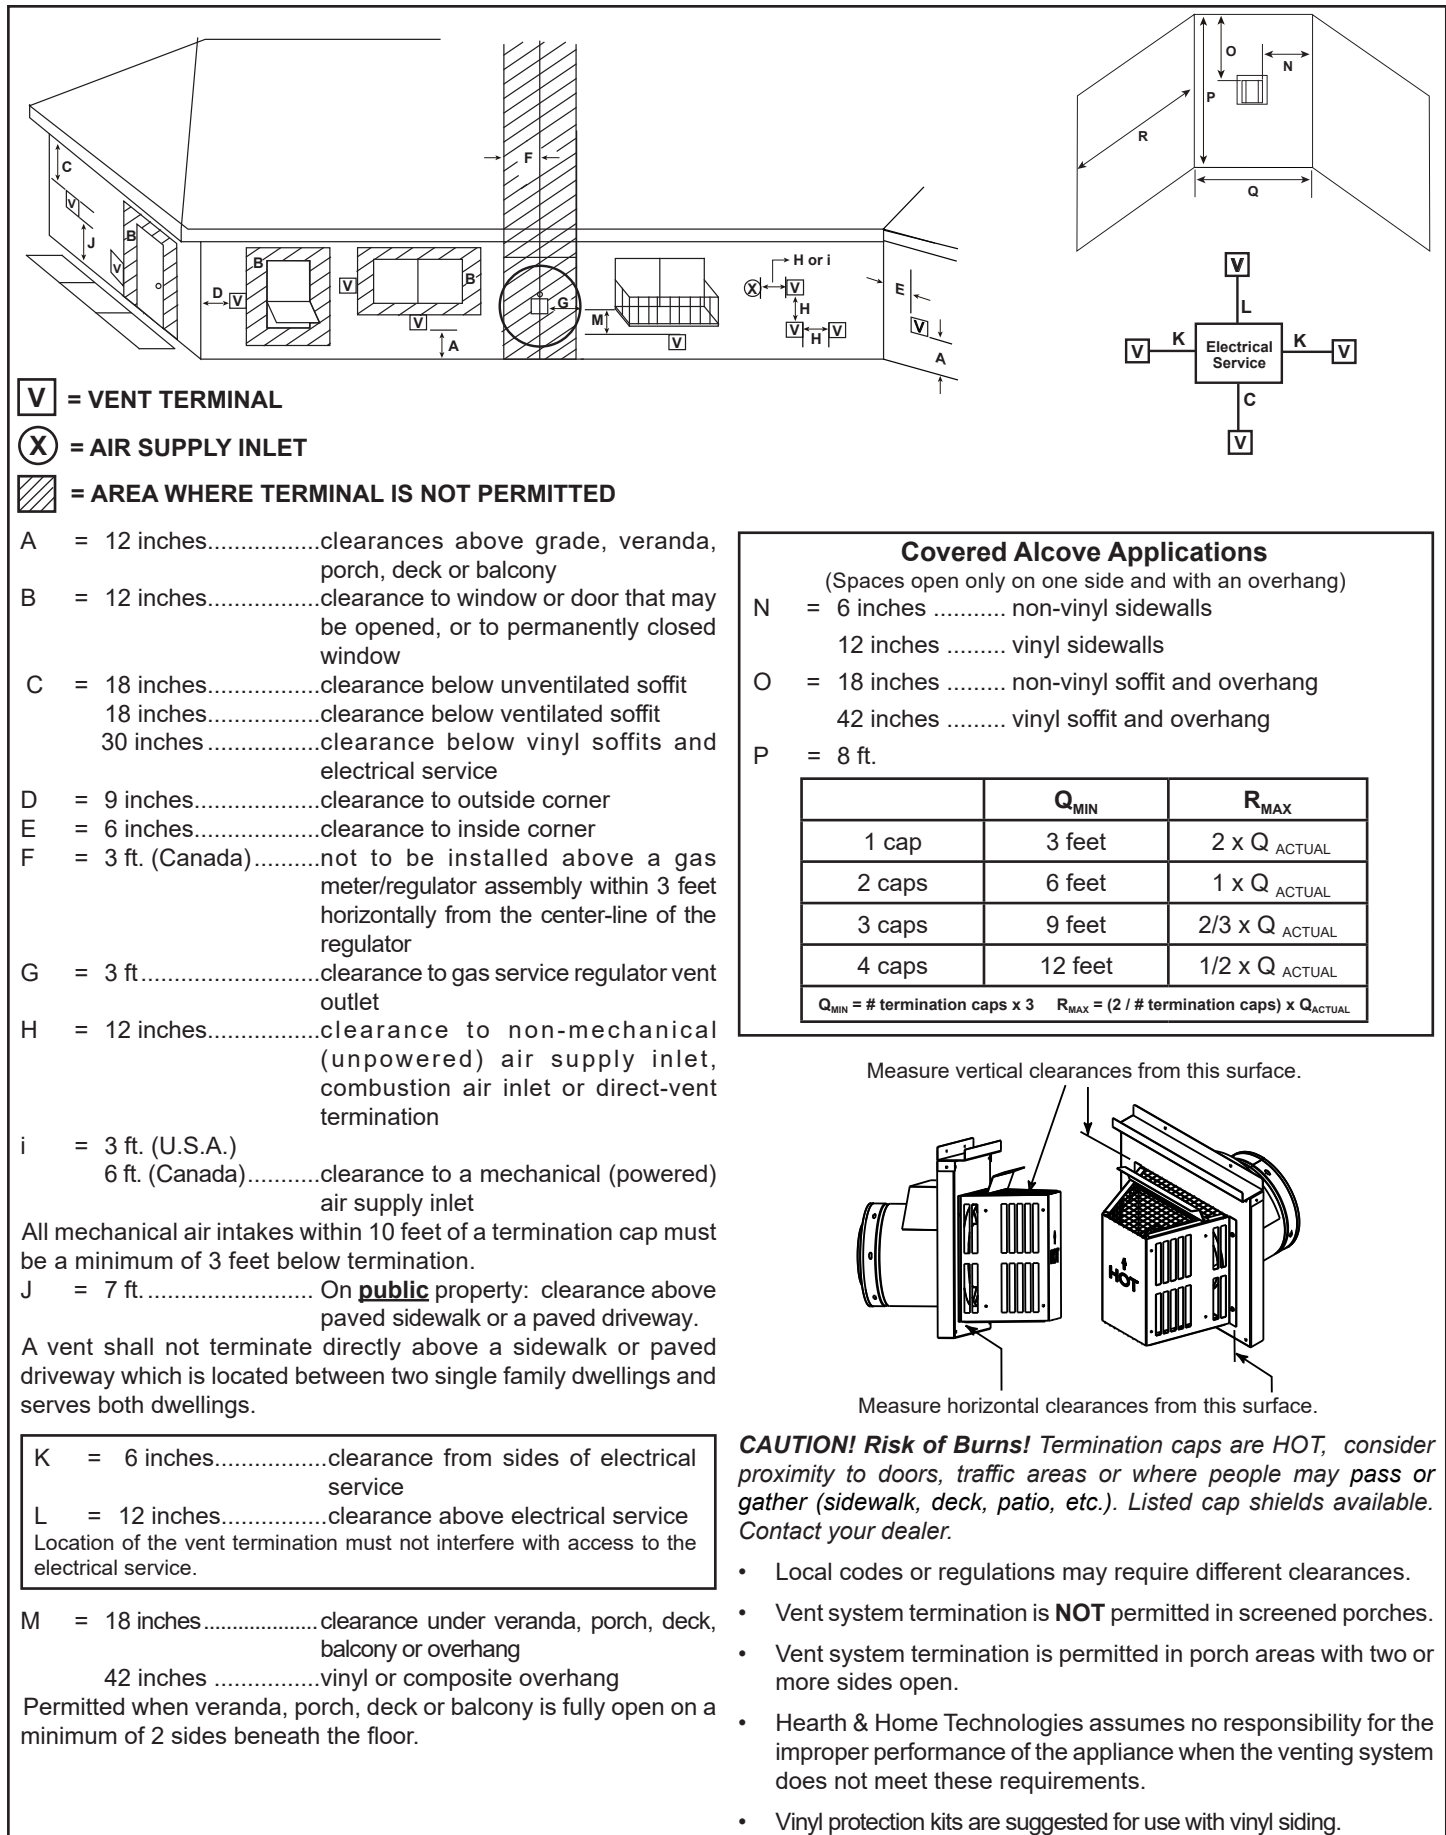

Figure 4.3 - Minimum Clearances for Termination
- Horizontal terminations are measured to the outside mounting surface (flange of termination cap), Figure 4.3.